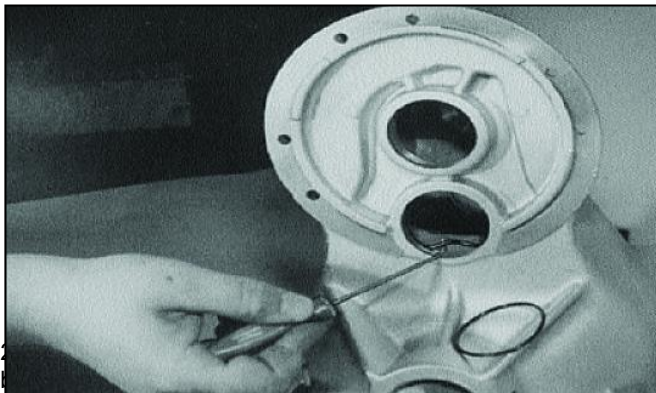

Figure 7-15
18. See Figure 7-15. Remove O-rings from outer input bearing bore and both intermediate bores.